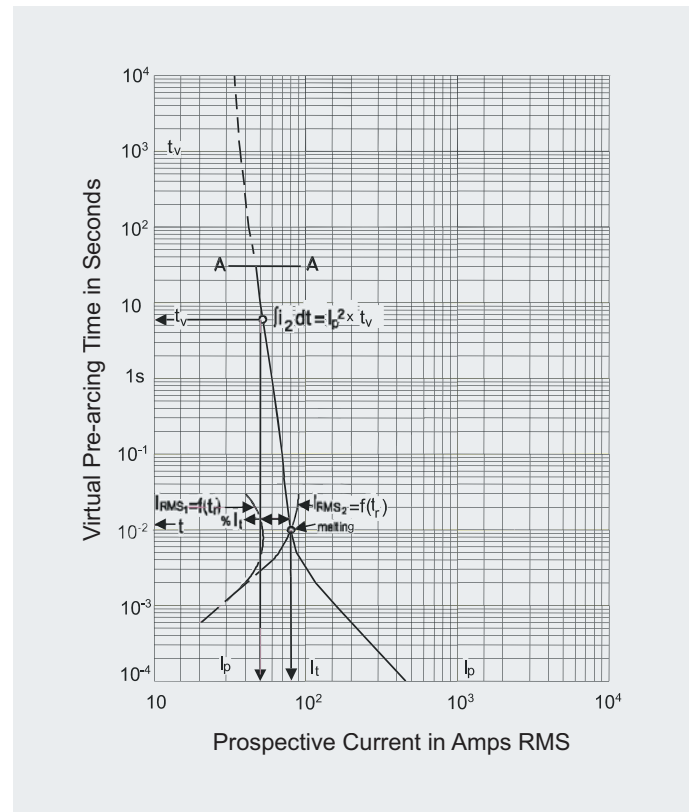

Figure 1
The time-current curve, also called the melting curve, enables the user to find vital information in the selection and dimensioning phase. See Fig. 1.
- Plot the values as coordinates  $I_{RMS}, t_r$  onto the fuse time/current curve as shown in Fig. 1
- If the plotted curve crosses the fuse melting curve (like  $I_{RMS, 2}$  in the example shown in Fig. 1), the fuse melts to the time which can be found from the crossing point (real time).
If the plotted curve does not cross the fuse melting curve (like  $I_{RMS, 1}$  in the example shown in Fig. 1), the fuse will not open.